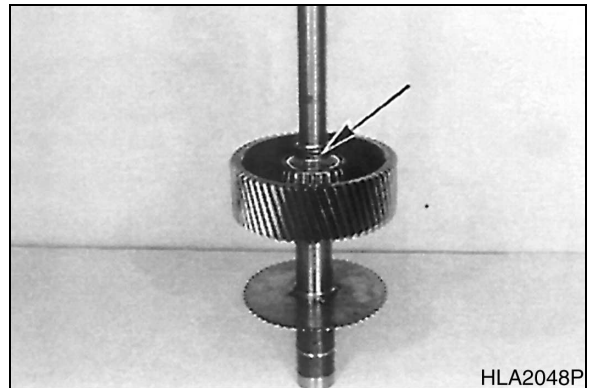

Figure 84
2. Remove rectangular ring (Figure 84).